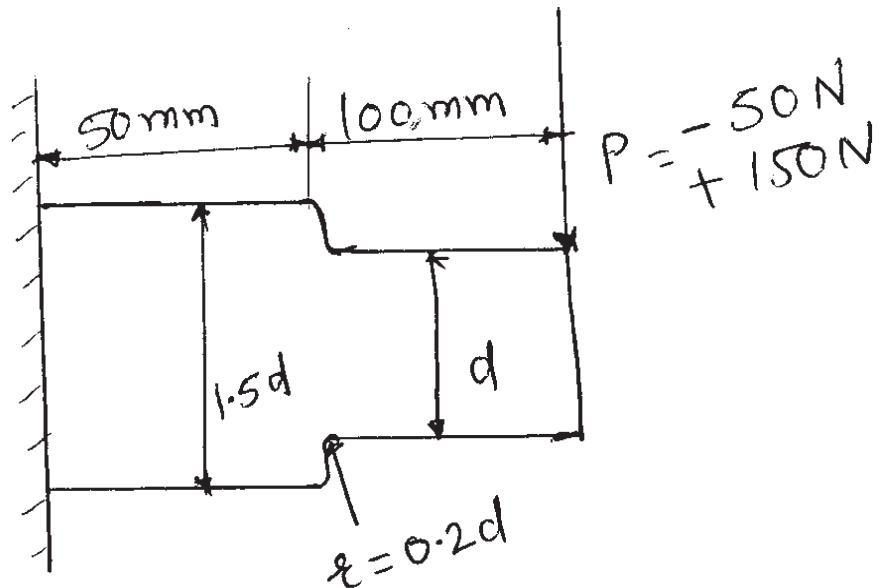

fig 5 B. (Q.No 5B)
- b) A cantilever beam made of cold drawn steel 40 C8 ($\sigma_{ut} = 600 \text{ N/mm}^2$ and $\sigma_{yt} = 380 \text{ N/mm}^2$) is as shown in fig 5 B the force 'p' acting at the free end varies from - 50 N to +150 N. The expected reliability is 90% and the factor of safety is 2. The notch sensitivity factor at the fillet is 0.9. Determine the diameter 'd' of the beam at the fillet cross - section using Gerber curve as failure criterion. [10]